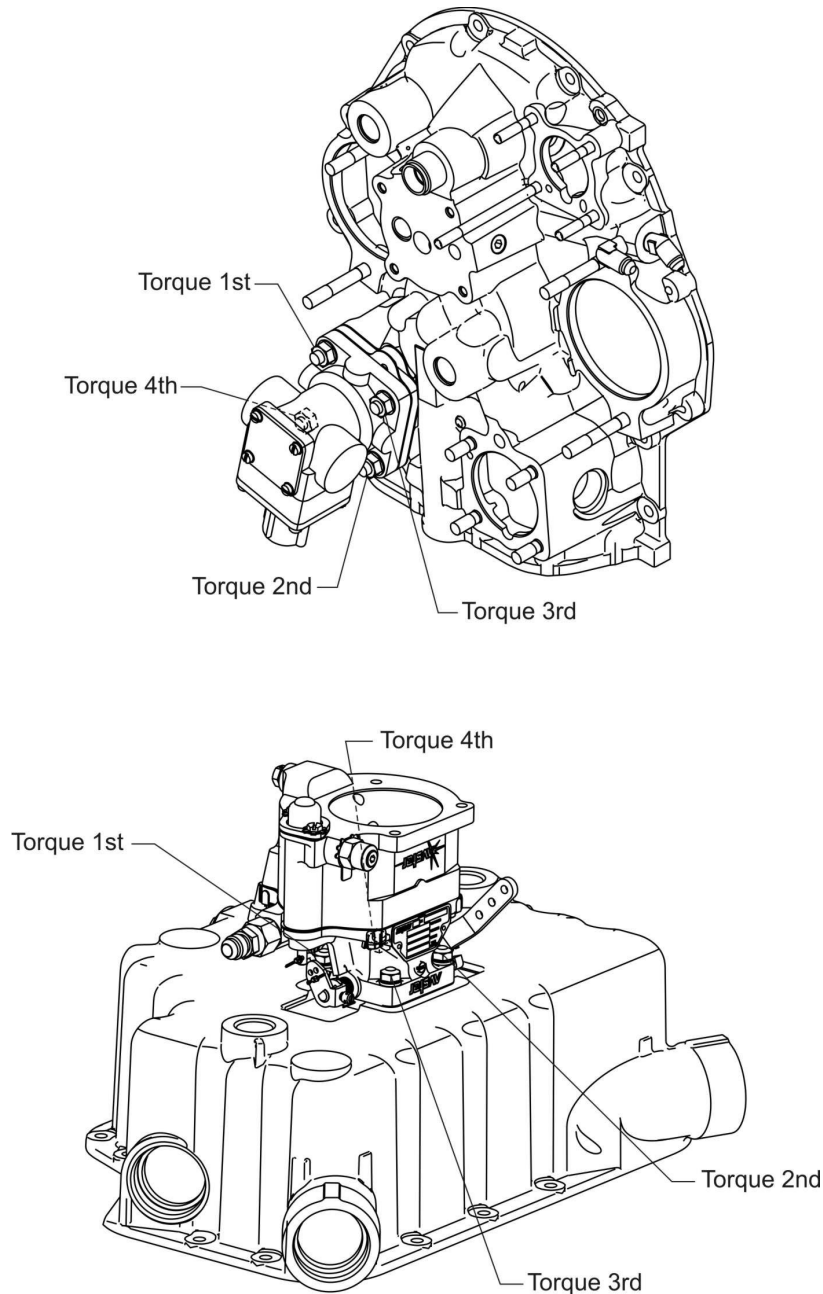

Figure 1
4. In a crisscross pattern, tighten the nuts finger tight so the flange of the fuel metering device, carburetor or fuel injector servo unit, or “AN” fuel pump, is flat to the attaching flange. Refer to Figure 1.